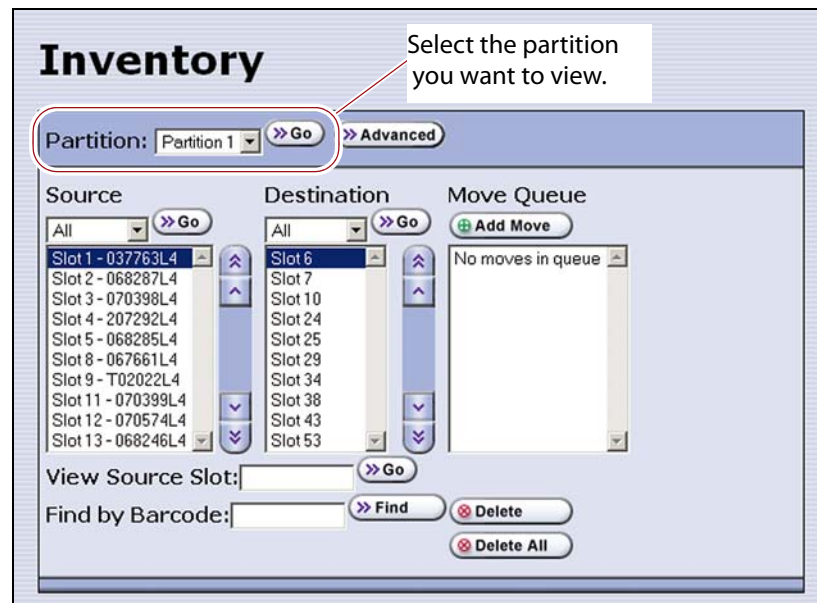

Figure 147 The Inventory screen.
4. If you want to download the inventory for a partition other than the one currently displayed, select the desired partition from the **Partition** drop-down list, then click **Go** (see Figure 147 on page 252).